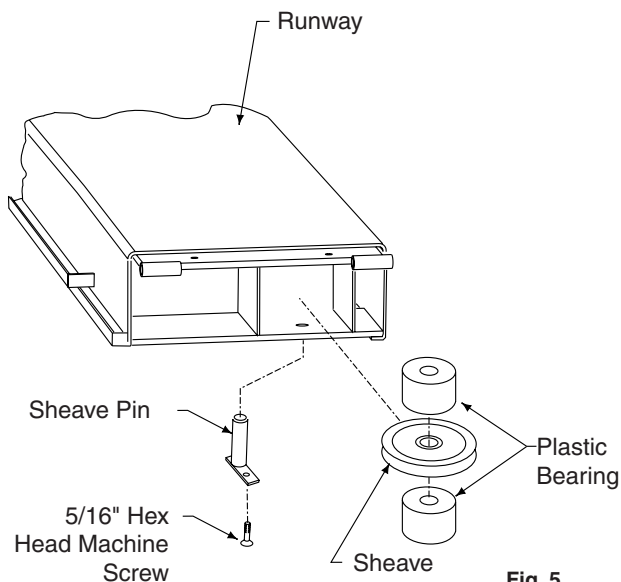

Fig. 5
- C. Position rear yoke at end of runways. The opening in the side of the yoke should be lined up with the cable sheaves in the runway ends. Feed cable ends through yoke openings. Be sure cables are not crossed inside yoke. Feed cable #1 through right runway, Fig. 3 and 4. Assemble sheaves and bearings into both ends of right runway, Fig. 5. Make sure cables are in proper sheave grooves, Fig. 3. Do not assemble sheaves in yoke ends at this time.